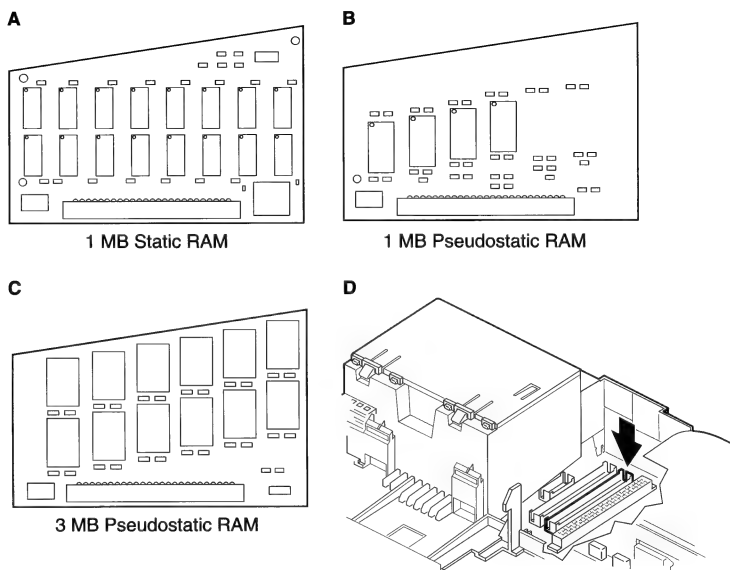

Figure 3 Static or Pseudostatic RAM Cards
4. Locate the RAM expansion connector (Figure 3-D). If the connector is not keyed, you must install a static RAM expansion card (Figures 3-A). If the connector is keyed, you must install a pseudostatic RAM expansion card (Figures 3-B and 3-C).
5. Position the static (not keyed) or pseudostatic (keyed) expansion card over the connector and plug in the card (see Figure 3-D).